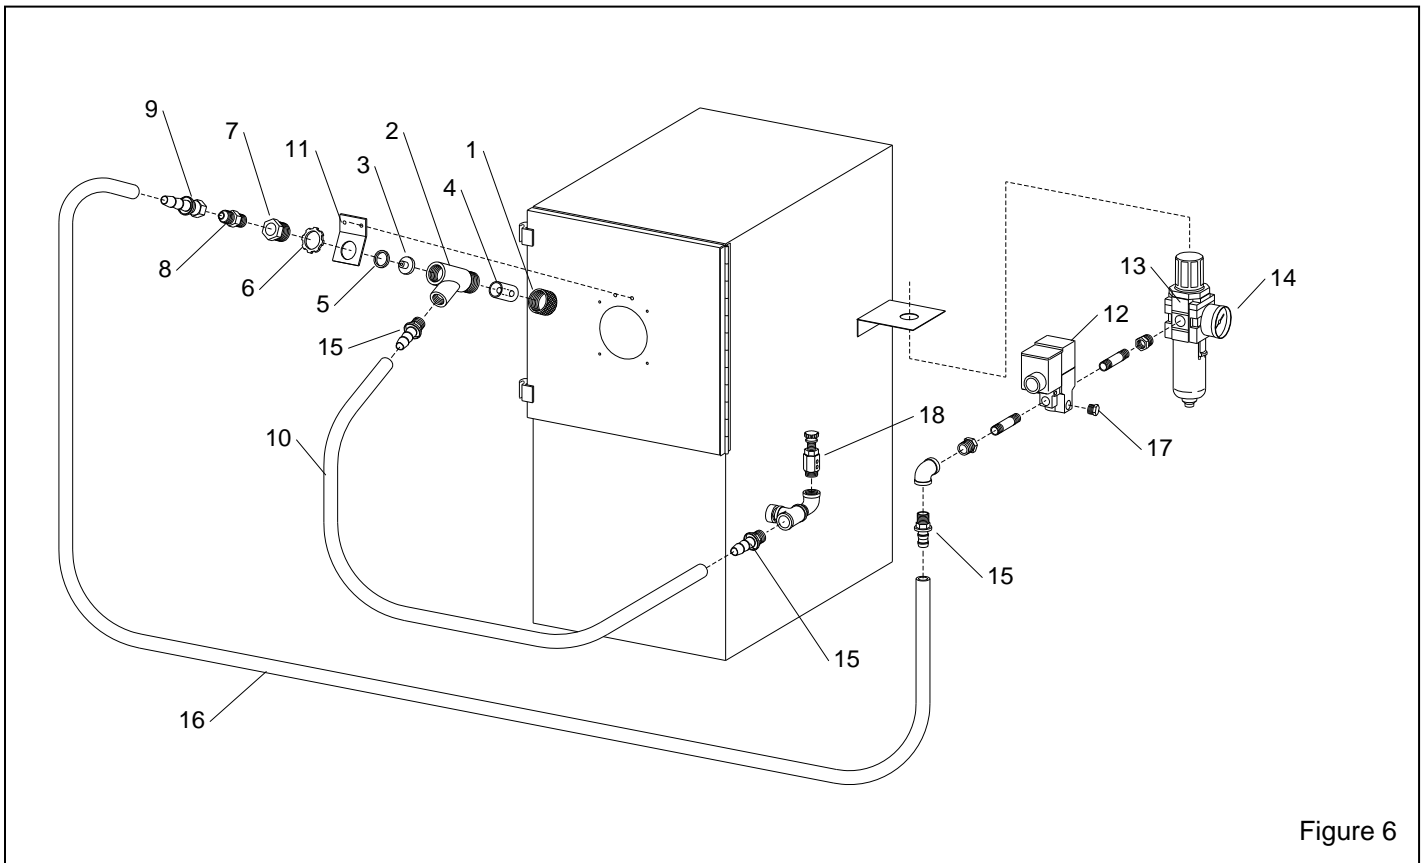

Figure 6
**6.10.2** Air jet washer (Fig. 6 item 5) not tightly sealed against air jet. Tighten the bushing into the gun body.
7.3 Gun feed and Plumbing Assembly, Figure 6